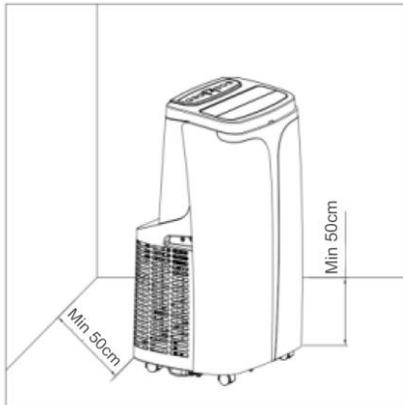

FIGURE 4
- Move the machine with installed heat pipe and fittings before the window, and the distance between the body and walls or other objects shall be least 50 cm (as shown in Fig.4).